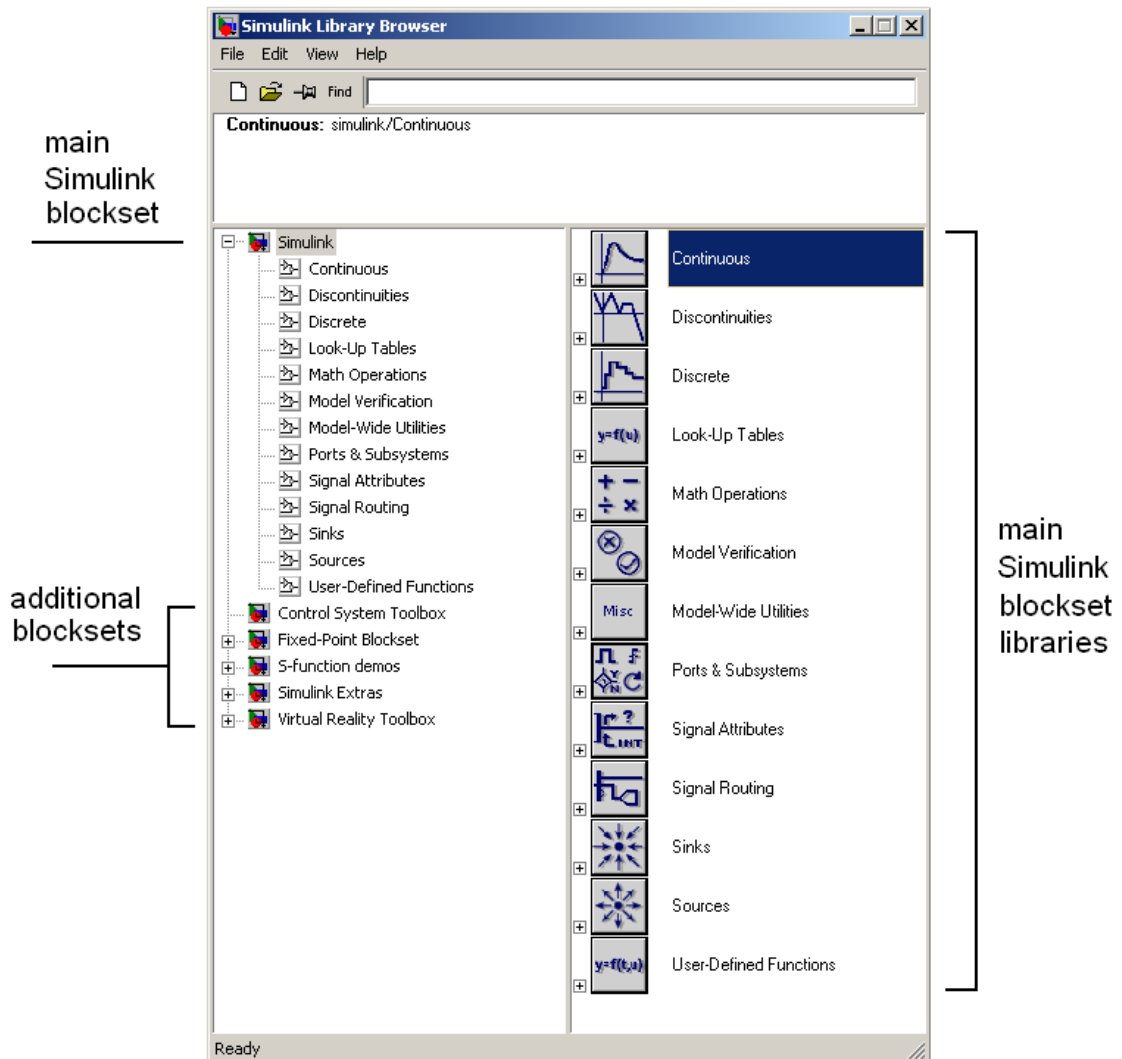

Figure 2: Simulink interface
3. The Simulink interface should now appear as shown below in Figure 2.